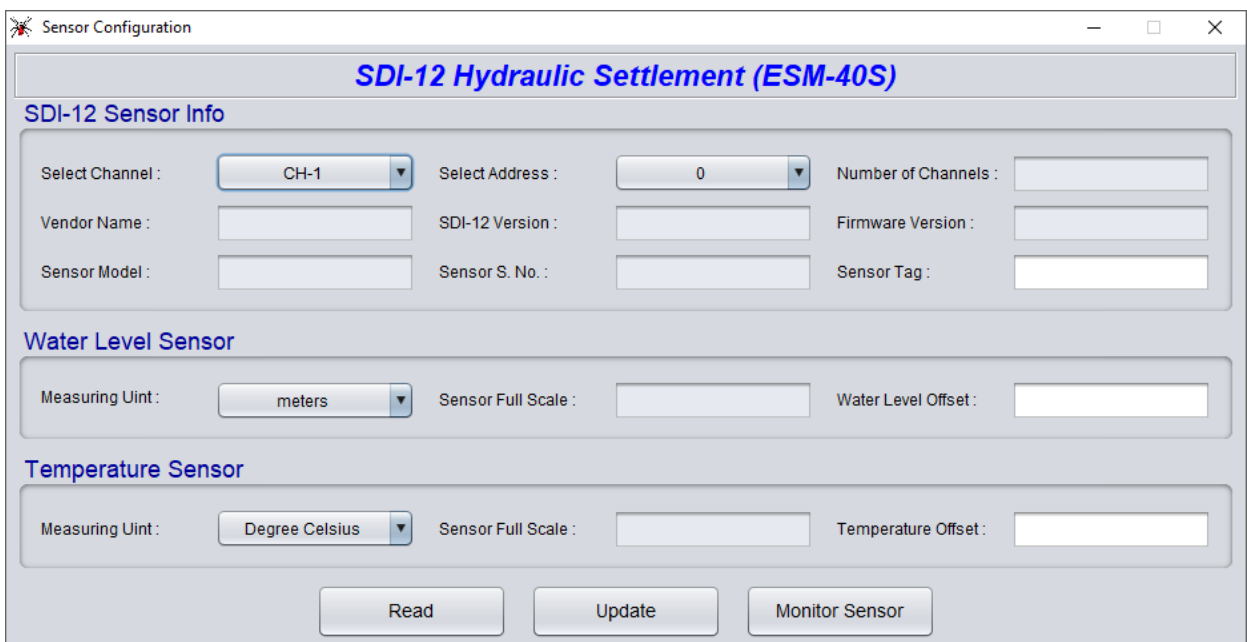
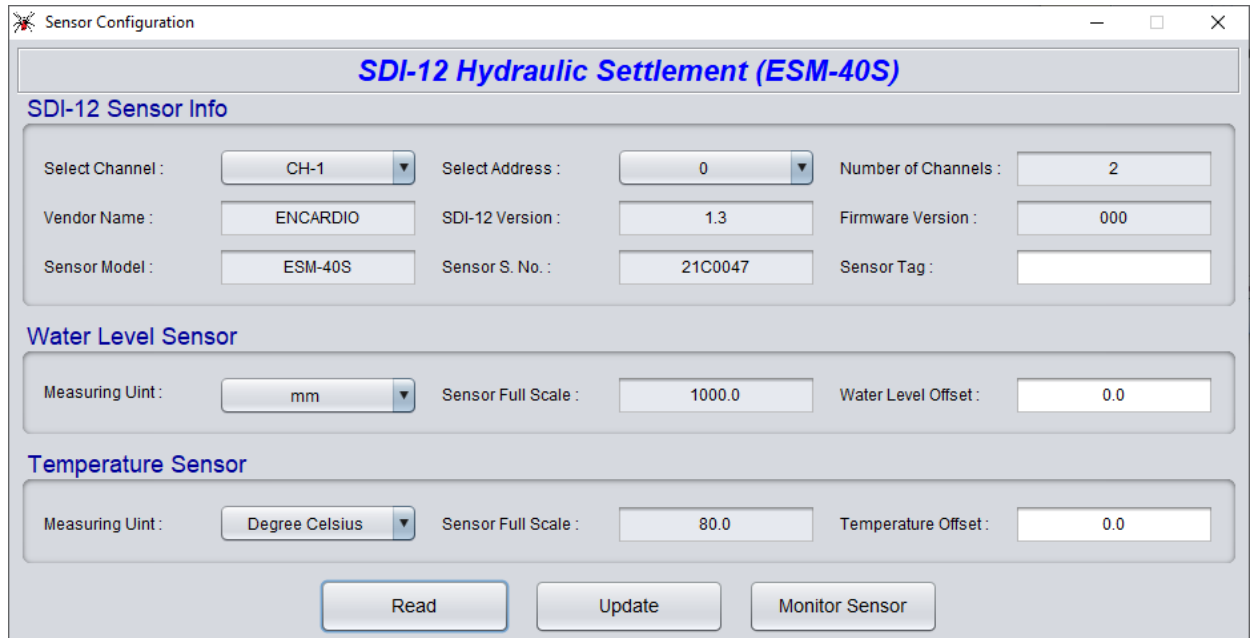

Figure 7-7
Figure 7-8 ESM-40S sensor details
7. Screen as shown in figure 7-7 will appear. Press "Read" button. The application will fetch the information stored in the sensor as shown in figure 7-8.